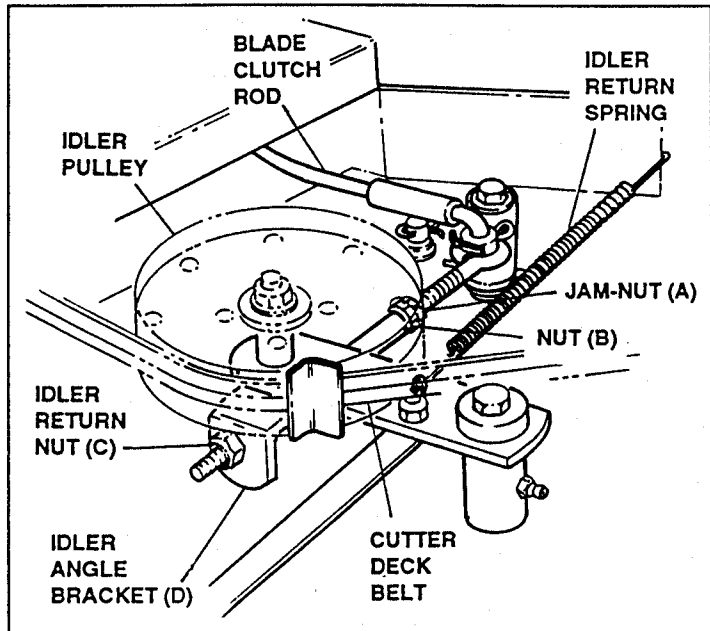

FIGURE 30
4. Cutter Deck Belt adjustment is made by loosening (turning counter-clockwise) Jam-nut (A) and Idler Return Nut (C) then tightening/loosening Nut (B) until proper belt tension is achieved (see item No.1). After proper belt tension is achieved, tighten (turning clockwise) Idler Return Nut (c) until it is tight against Idler Angle Bracket (D). See Figure 30.